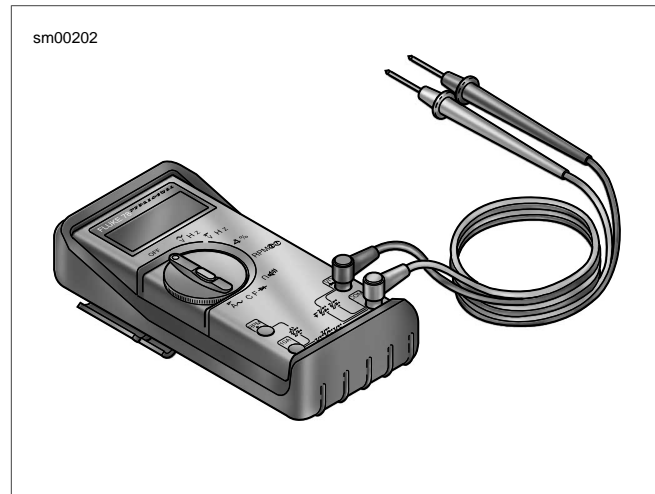

Figure 4-12. Fluke 78 Multimeter (DVOM) (Part No. HD-39978)
1. See Figure 4-12. Connect digital volt/ohmmeter (DVOM) to wiring harness between the suspect connections. Set DVOM to read voltage changes.